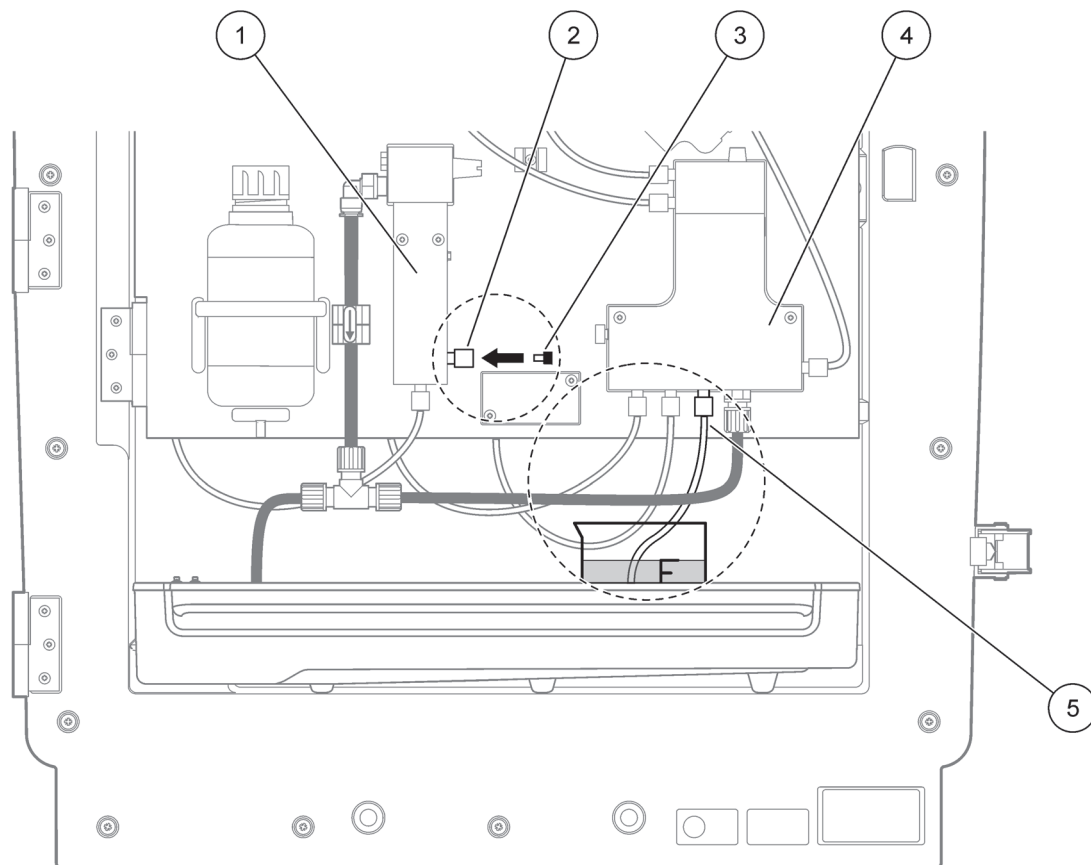

Figure 21 Modification of AMTAX sc
7. Select ENTER to modify the analyzer (Figure 21, page 55):
- a. Unscrew the fitting (item 2) of the sample tube (item 5) which connects the overflow vessel (item 1) and the valve block (item 4) at the overflow vessel.
- b. Screw in the blind plug (item 3) in the thread of the overflow vessel (item 1) and insert the sample tube in a beaker (for example 150 mL) with standard solution for the validation.